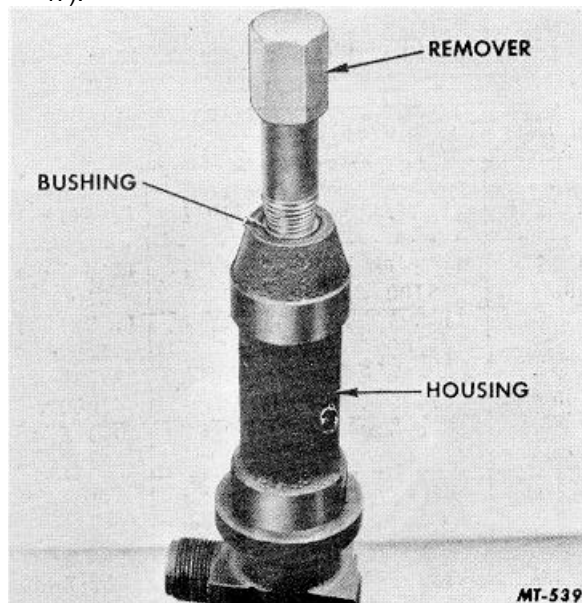

Fig. 47 Installing Remover SE-1955-5 In Lower Bushing
3. Install remover (SE-1955-5) in lower bushing (Fig. 47).